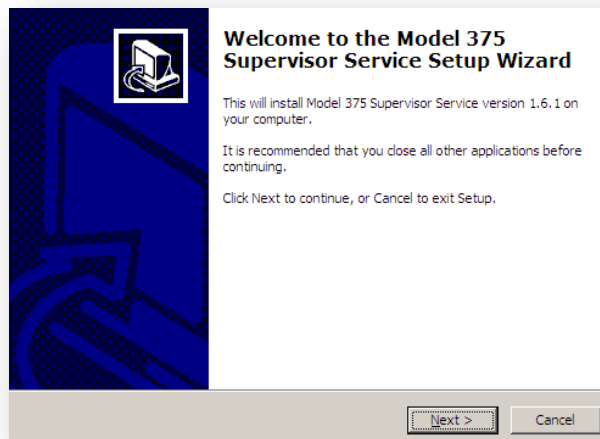

Figure 9 – Model 375 Web Page and Supervisor Service installation welcome screen
1. When the Welcome screen appears, click “Next”. See Figure 9.